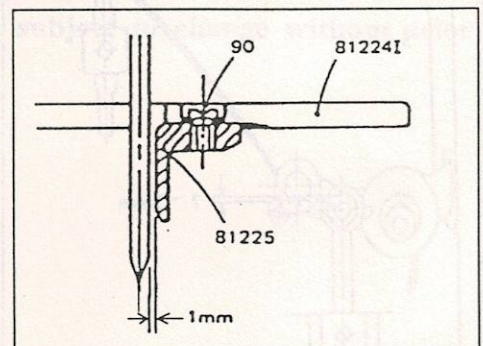

Fig. 8
Mount the needle guard (81255) in the groove on the throat plate (812241W), as shown in (Figure 8), and adjust its position so that the clearance between the needle and the guard is 1 mm. Hold the guard in position by means of the screw (90).